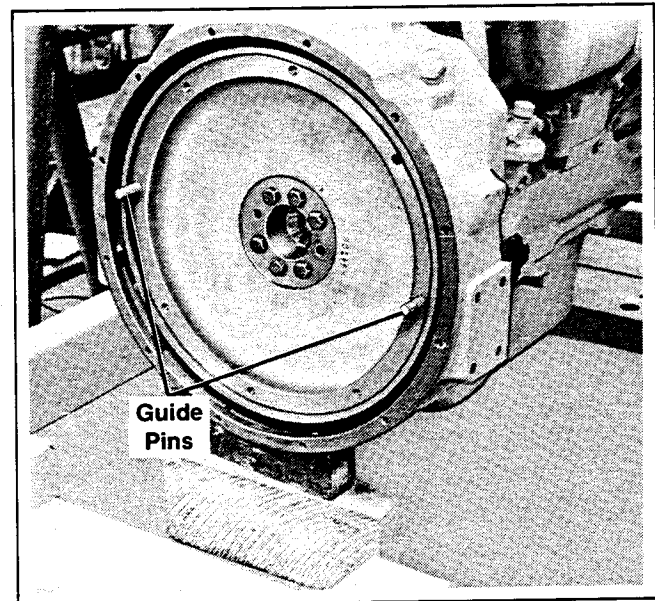

Figure 5-15. Guide Pin Placement (If Used)
9. If bolts are used to fasten drive discs to flywheel, guide pins should be used to align flywheel with drive discs. Make guide pins by removing heads from two properly sized and threaded bolts, leaving approximately 1 in. (25.4 mm) of unthreaded shank to protrude from flywheel face. Thread guide pins into flywheel as shown in Figure 5-15.